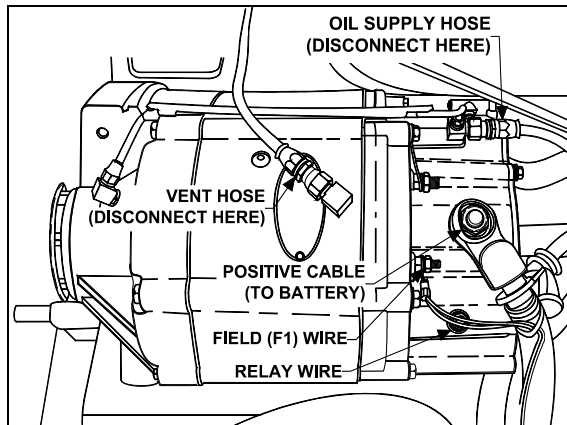
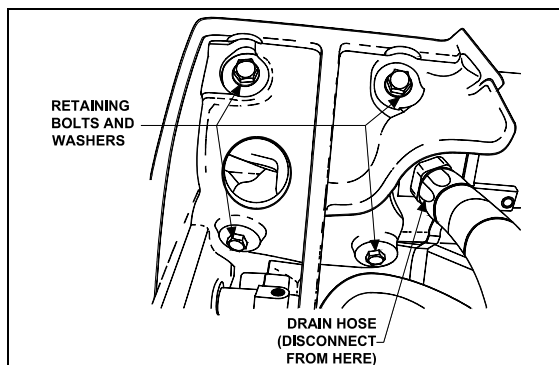

FIGURE 38: ALTERNATOR (HOSES AND WIRES) 06341
FIGURE 39: ALTERNATOR RETAINING BOLTS AND WASHERS 06350
4. Scratch off protective sealer from electrical connections (relay, field and positive terminals). Refer to figure 38.
5. Disconnect wire #25 from the relay terminal, wire #107 from the field "F1" terminal and disconnect battery cable from the positive "+" terminal on the diode end cover. Tag wires removed to ease identification at time of installation. Refer to figure 38.
6. Disconnect oil supply line and vent hose from top of alternator (Fig. 38) and tape lines to prevent entry of foreign matter. Disconnect oil drain hose from bottom of alternator (Fig. 39) and tape line to prevent entry of foreign matter.
7. Remove the four bolts and lock washer retaining alternator (refer to fig. 39).